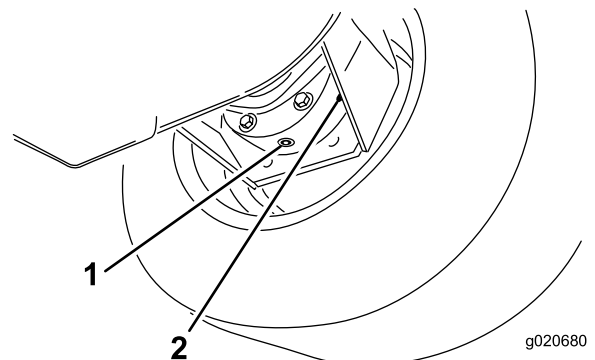

Figure 62
3. Place a drain pan under the brake housing, remove the drain plug, and allow the oil to drain (Figure 62).